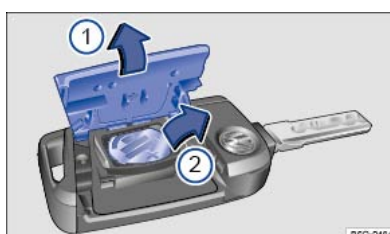

Fig. 62 Vehicle key: replacing the button cell.
Key to ⇒ **Fig. 62** :
- Lever off the cover ⇒ **Fig. 62 ①** ⇒ ①.
- Lever the button cell out of the battery compartment ⇒ **Fig. 62 ②**.
- Press the new button cell into the battery compartment ⇒ **Fig. 62 ②** ⇒ ①.
- Press the cover onto the housing ⇒ **Fig. 62 ①**.